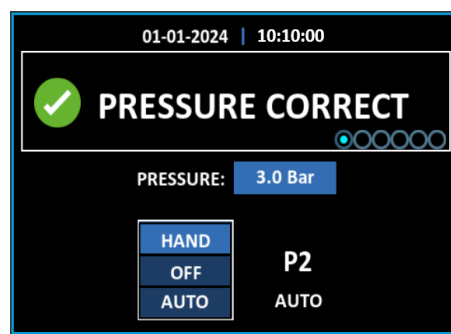

Fig 3.20: Pump 1 Mode Selection
- Once selected, the square box around the pump will display three mode options: 'HAND,' 'OFF,' and 'AUTO,' with the cursor initially highlighting 'HAND' (see Fig 3.20).